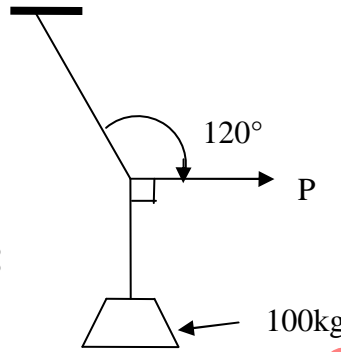

Fig.6 Q-4 (a) OR
- Q.4(a)** Find the magnitude of the force P, required to keep the 100 kg mass in the position by strings as shown in the fig.6. **03**